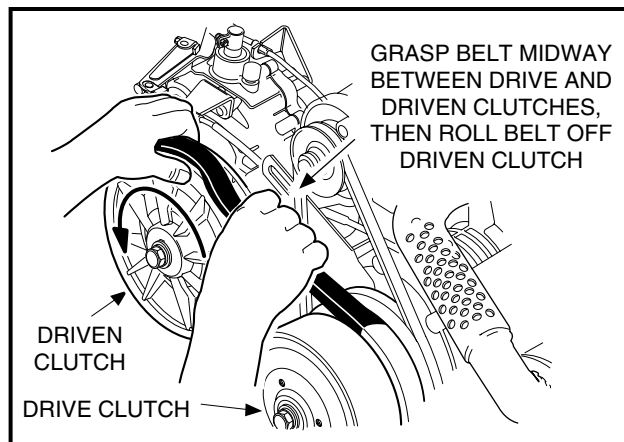

FIGURE 10-30
14.1. Grasp the belt midway between the drive clutch and driven clutch and pull up forcefully on the belt to force the driven clutch sheaves apart. Then roll the belt counterclockwise while pulling it off of the driven clutch (**Figure 10-30, Page 46**).